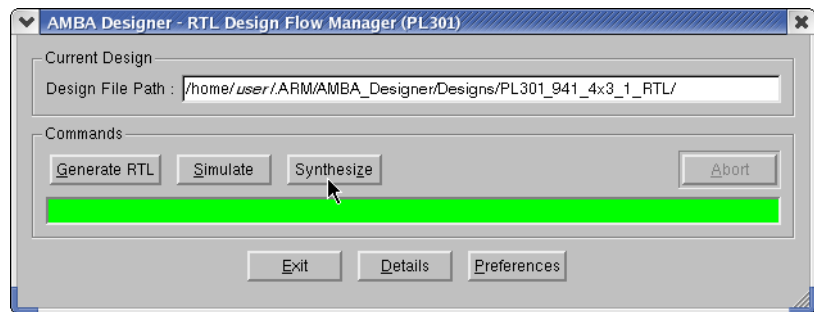

Figure 8-12 Synthesize RTL
4. Click on **Synthesize** in the RTL Design Flow Manager dialog box, as Figure 8-12 shows.